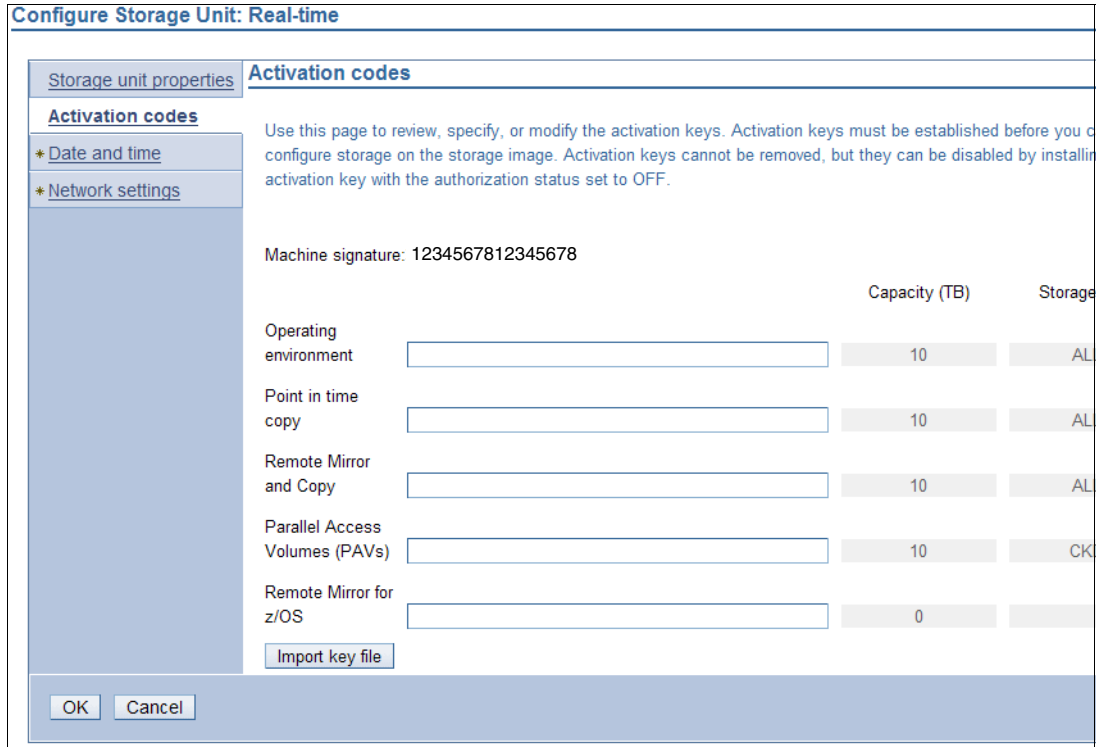
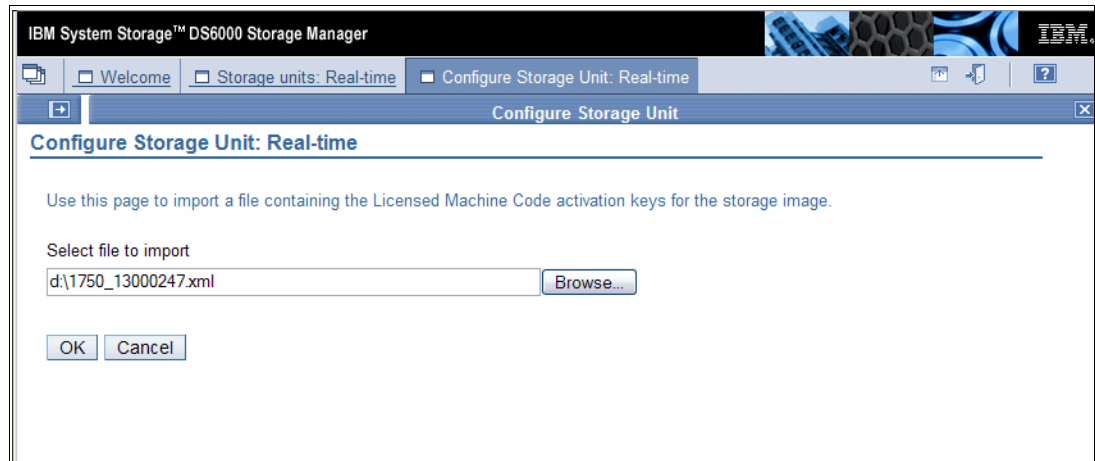

Figure 8-10 DS6000 Configure Storage Unit window (Activation code input tab)
Figure 8-11 DS6000 Configure Storage Unit window (import key file)
- The Apply activation codes window is displayed (see Figure 8-10). You can now input the codes into the boxes.
1. In the Apply activation codes window (shown in Figure 8-10 on page 154), click the **Import key file**. You might get a warning window, informing you that the current activation keys will be over-written. If you are ready to proceed, click **OK** and the import window is displayed (see Figure 8-11).
4. You can now confirm the licensed features are activated by viewing the same window shown in Figure 8-10 on page 154.